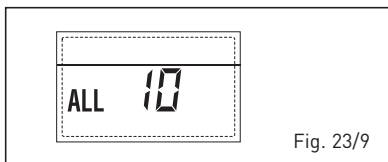

Fig. 23/9
– **INTERVENÇÃO Sonda FUMOS “ALL 13”** (fig. 23/10)